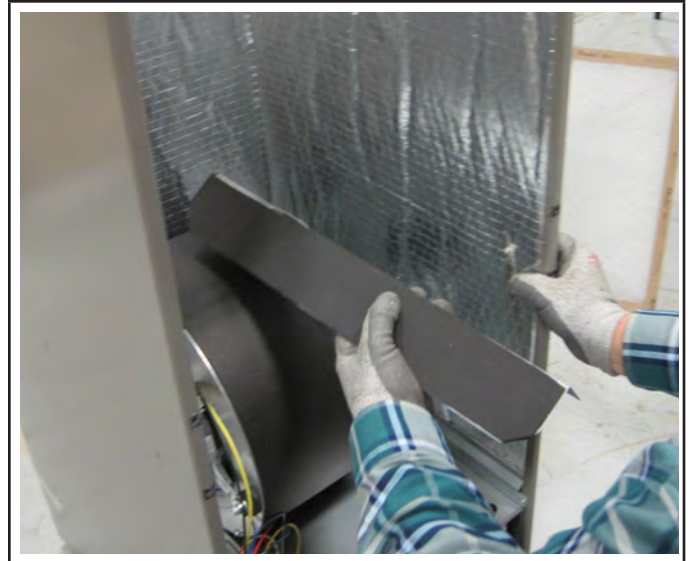

FIGURE 13. Install Insulated Coil Support Brackets to Inside Walls of Cabinet
- 1 - Install the provided insulated coil support brackets (part **B**, two each) using provided six #8-18 x 1" screws (part **F**) to the inner sides of the cabinet with the insulating foam facing up (see figure 13). Do not fully tighten screws at this time.